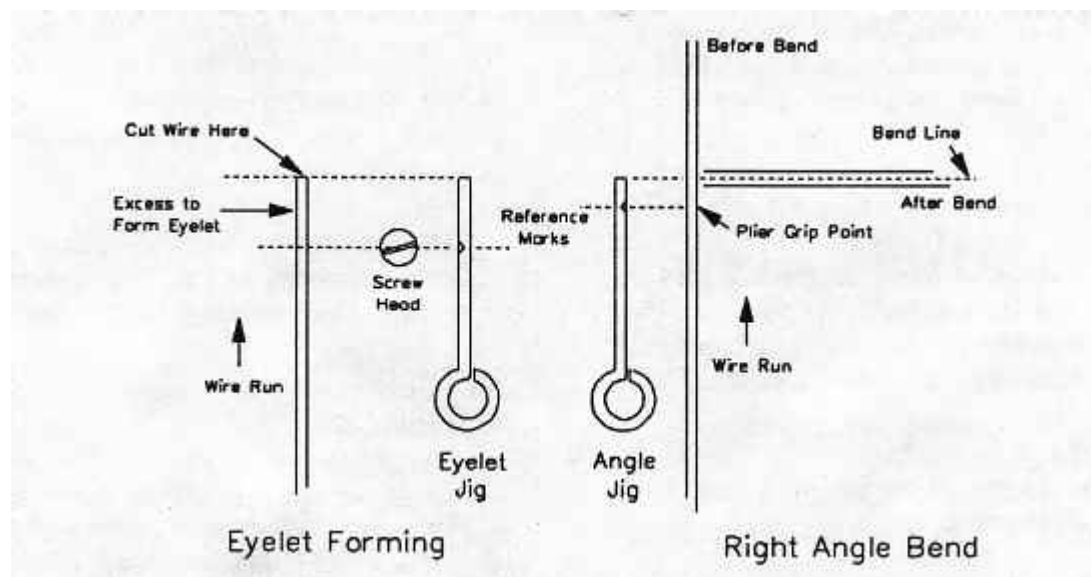

Figure 4. Using Wiring Jigs.
- (1) Accurately mark on the wire (with pencil) the location of the centre of the screw head which is to receive the eyelet. See Fig. 4.
- (2) Align the reference mark on the jig with the pencil mark from (1), and make a second pencil mark flush with the end of the jig on the wire to be cut. Cut the wire and bend the eyelet as already described.
- Accurately mark the wire at the centre line of the new path. See Fig. 4.
- Align the end of the jig with the mark from (1), and make a second mark on the wire to be bent at the jig reference mark. Grip the wire at this second point and make the bend.